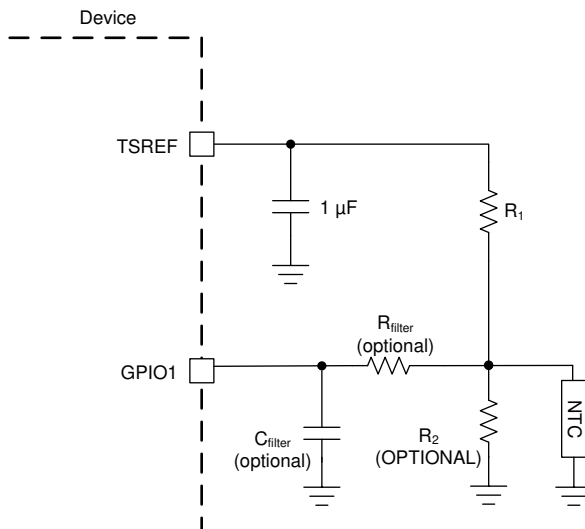

Figure 9-6. Thermistor Connection
Figure 9-6 shows the thermistor circuit when GPIO is enabled for thermistor measurements. MCU ensures TSREF is enabled by setting $CONTROL2[TSREF_EN] = 1$ and settled before taking the measurement value.
- $R1$ is the pull-up resistor as shown in Figure 9-6 with the assumption the $R2$ is not used